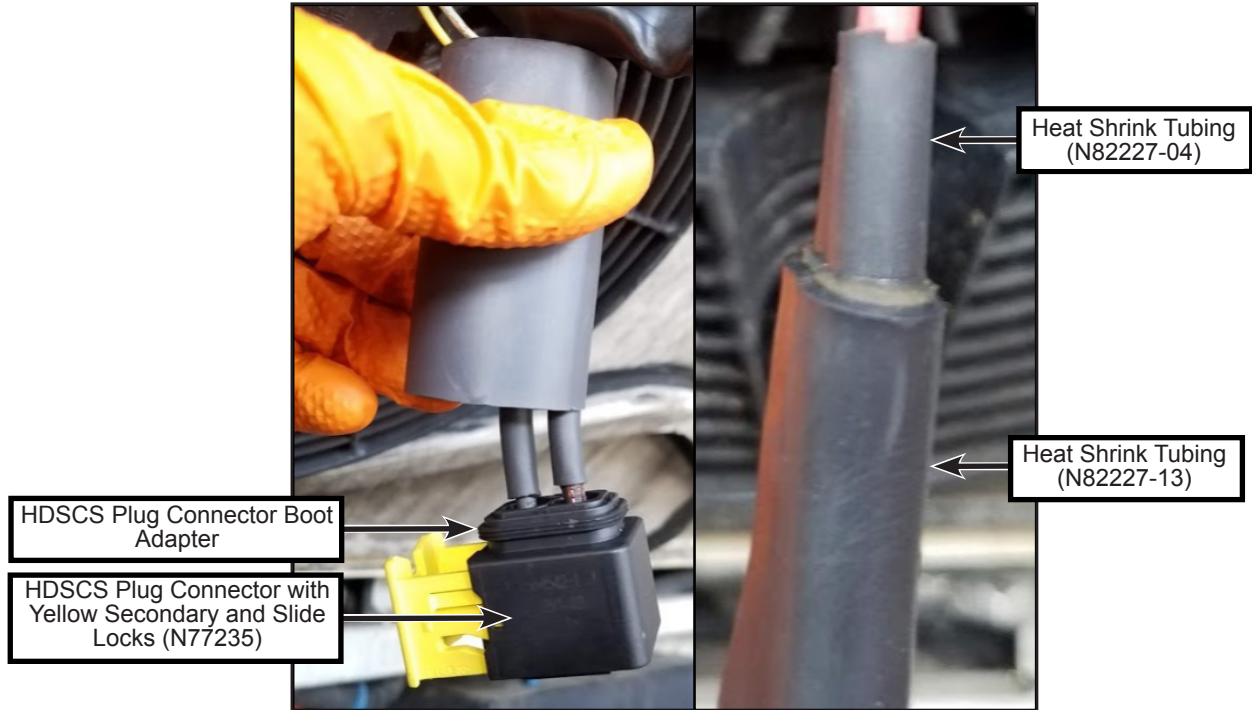

Figure 9 - Heat Shrink Tubing Installation on HDSCS Plug Connector Wiring at Fan Side
- 1.17. Insert the RED wire terminal into position 1 and the BLACK wire terminal into position 2 of the HDSCS plug connector PN N77235 (see figure 9). Make sure that the yellow secondary lock of the plug connector is completely pressed (to move it from the unlocked to the locked position) after inserting both terminals. Refer to Annex 2 for detailed instructions about terminals insertion and secondary lock.
- 1.18. Using a heat gun, apply the large heat shrink tubing PN N82227-13 starting from the boot adapter of HDSCS plug connector finishing directly over the smaller heat shrink tubes previously installed on the power wires (see figure 9). Make sure to fill any gap between the two power wires with the inner adhesive liner glue (do not apply heat shrink tubing over tape or loom).
- 1.29. Using a heat gun, apply the large heat shrink tubing PN N82227-13 starting from the boot adapter of HDSCS receptacle connector finishing directly over the smaller heat shrink tubes previously installed on the power wires (see figure 9). Make sure to fill any gap between the two power wires with the inner adhesive liner glue (do not apply heat shrink tubing over tape or loom).